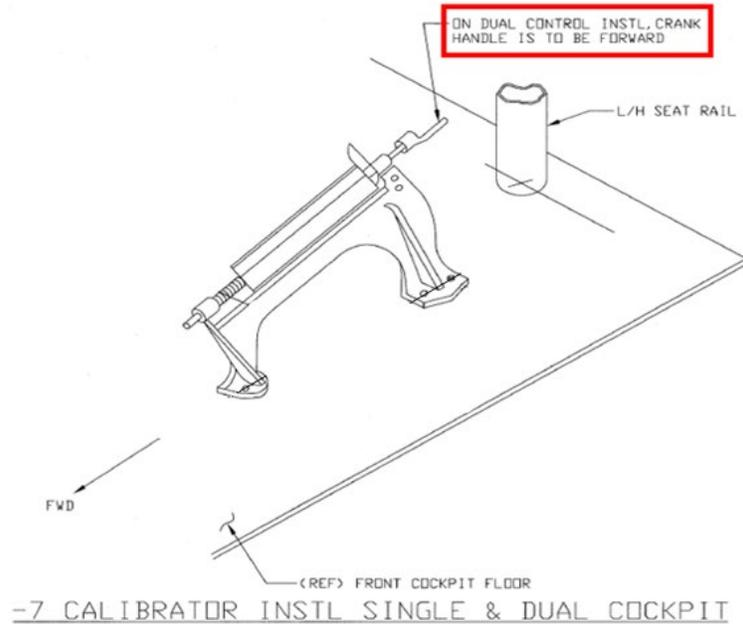

Figure 1
1. For Single Cockpit and Dual Cockpit/Single Control configuration aircraft, it is standard to install the Dump Handle Calibrator Crank facing aft (upward) as shown in Figure 1.